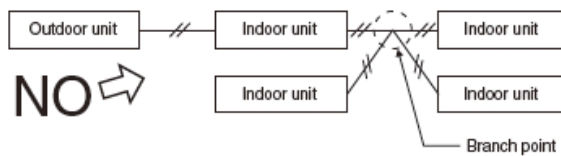

Fig.9-4
- (3) Do not install inter-unit control wiring such as star branch wiring. Star branch wiring causes mis-address setting.(Fig.9-4)